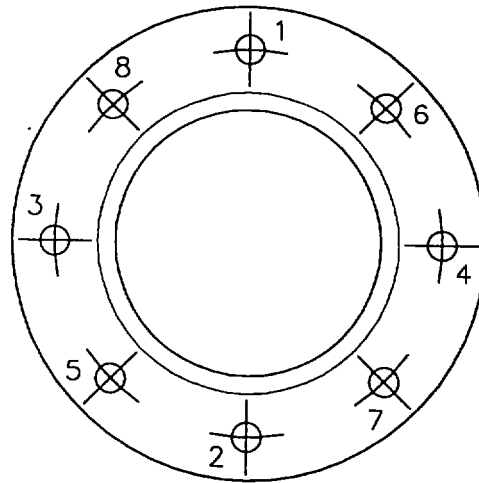

Figure 4-7. Flange Torque Sequence
- (3) Torque hex nuts (6) in the following sequence (refer to Figure 4-7).